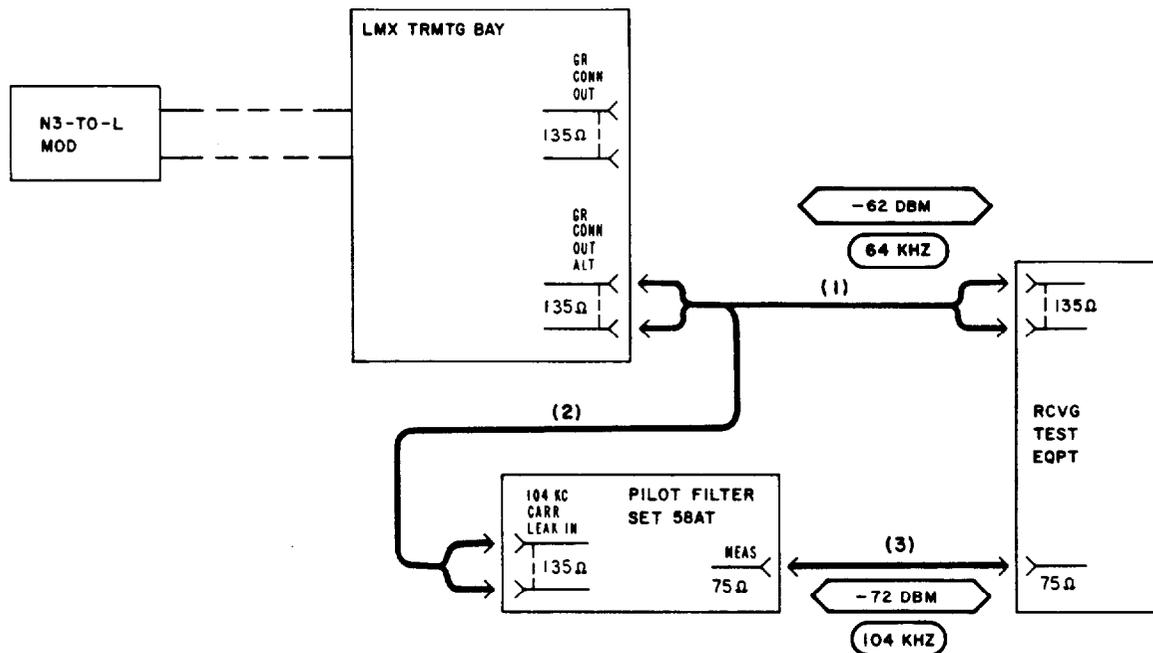

Fig. 3—Measurement of 64-kHz and 104-kHz Carrier Signal Power
- 17 Connect the GR CONN OUT ALT jack (LMX-2) or GDF OUT ALT jack (LMX-3), for the transmitting group serving channel group 1, to the receiving test equipment, as shown by patch 1 in Fig. 3.
20	Connect the GR CONN OUT ALT jack (LMX-2) or GDF OUT ALT jack (LMX-3), for the transmitting group serving channel group 2, to the receiving test equipment via the 104 KC CARR LEAK IN jack on the pilot filter set, as shown by patches 2 and 3 in Fig. 3.